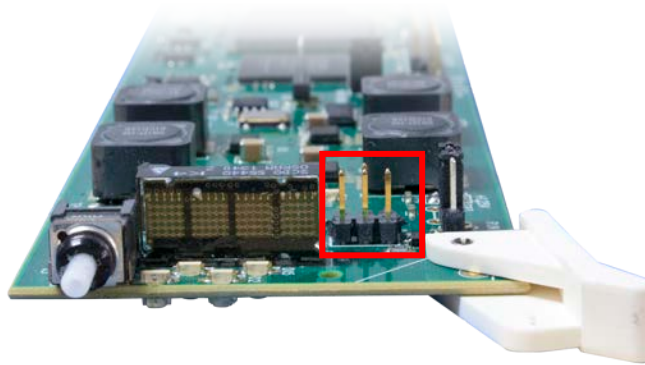

Figure 2-5: Serial Connection
- Figure 2-5: Serial Connection 8
Before inserting the card, connect the serial cable to the board using the serial cable provided as shown in Figure 2-5. Now insert the FC card into the dedicated front slot ensuring the card lines up with the slot runners on the bottom and the top of the chassis. Push the card **firmly** into the slot ensuring that when it mates with the rear card it has been firmly pushed into a seated position. Do not connect any cables to the rear card (failure to do this could cause unwanted network issues) until the initial configuration has been completed.